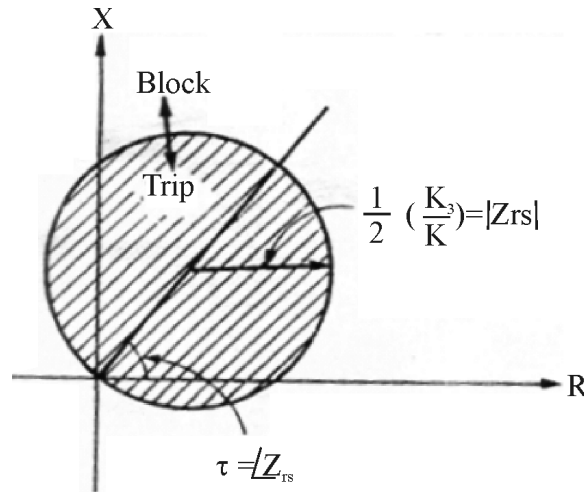

Fig. D3 Rx-diagram of a mho relay
The right hand side of Eqn (1) is a circle with centre located in the line determined by the parameter τ and passing through the origin as shown in Fig D3. The characteristic in this case is inherently directional. This characteristic can be alternatively expressed as